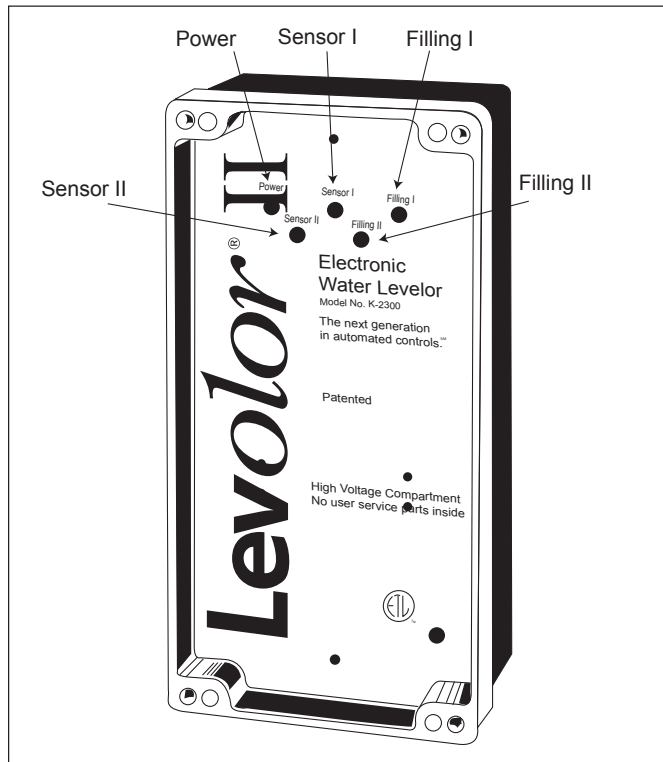

Figure 24. K-2300 Controller Lights
The controller for the K-2300 has five (5) lights. See Figure 24 and refer to Table 2. The Power light turns green when the unit is on. The Sensor I light turns yellow when water is not touching the Sensor I tips.